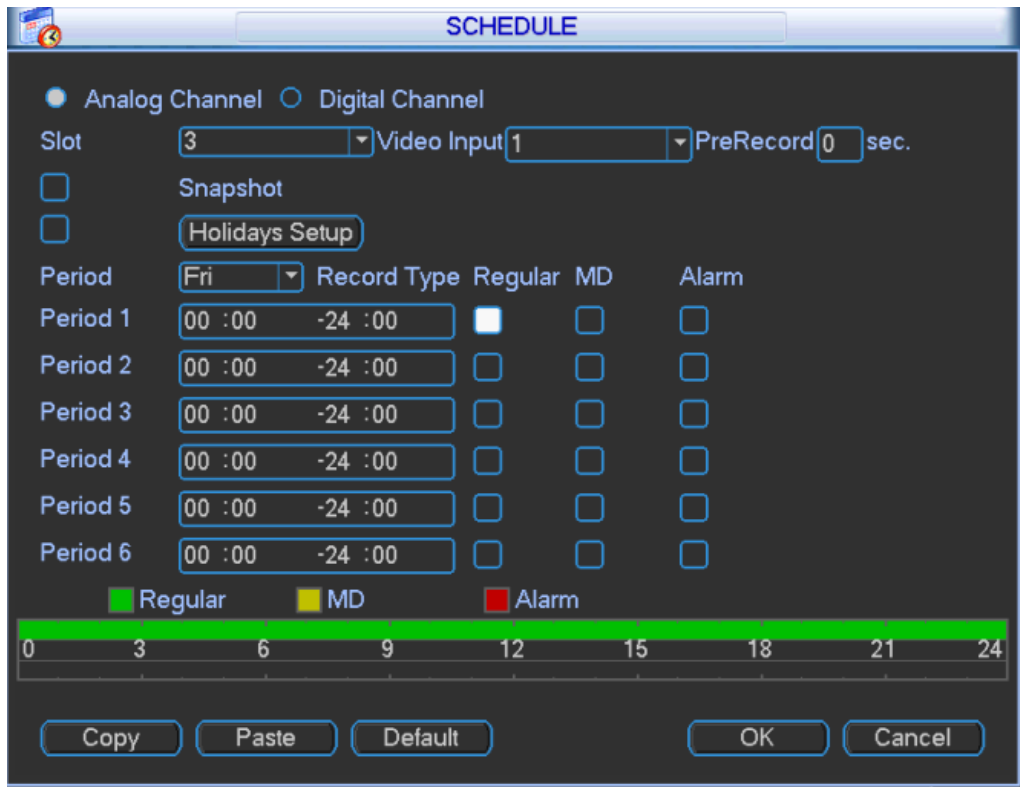
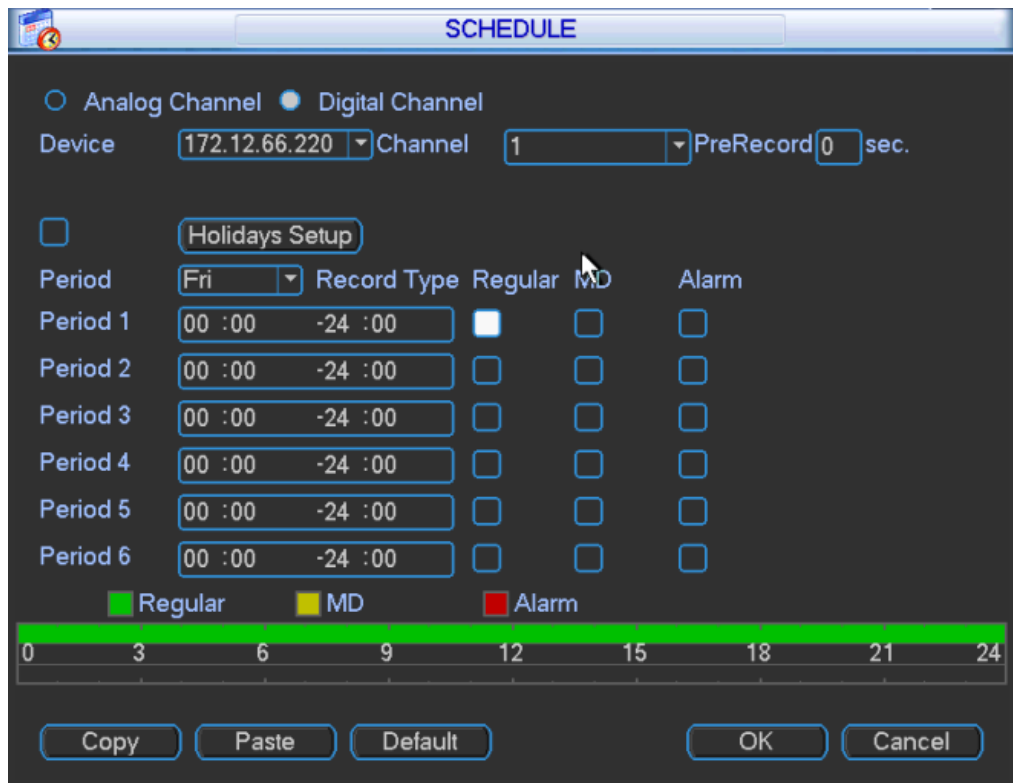

Figure 3-34
Figure 3-35
Step 1 In main menu, select “Setup>Schedule”, and the system displays “Schedule” interface, as shown in Figure 3-34 and Figure 3-35.